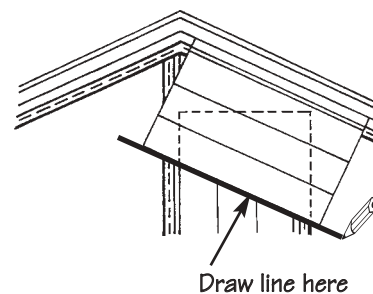

Figure 63.
- Make a pattern for end cuts along the gable using two pieces of scrap siding (Fig. 63). Lock one piece into the vertical strip at the center of the wall. Hold the edge of the other piece against and in line with the roof line. Mark the slope on the vertical piece and cut along that line. Use it as a pattern to mark and cut the ends of all other panels required for this side of the gable. Make another pattern for the other side of the gable.